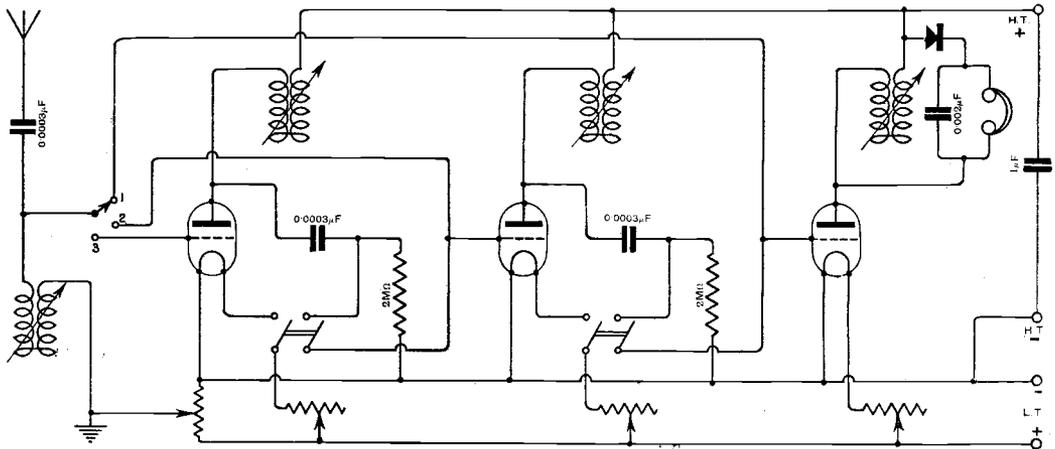

Fig. 3. "RAW RECRUIT" (W.1). Variometer tuned three-valve receiver (3-c-0) with switches to control the number of H.F. valves in use.
(1) and (3) See Fig. 3. We do not think that you will be able to tune all three variometers from one spindle as you suggest, since the tuning of the last variometer will be affected by the parallel crystal and telephone circuit. You might, however, couple the first two variometers together. A set of this type will very often oscillate without the use of a reaction coil, and a potentiometer has been included to minimise this tendency. If oscillation cannot be controlled by the potentiometer, try connecting the grid leaks to the positive side of the L.T. supply. (2) Yes, provided that you are not too near to any one of them. In London, for instance, you will have difficulty in getting Cardiff while 2 LO is working.